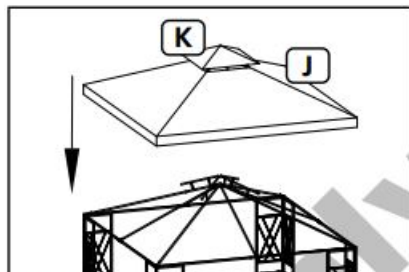
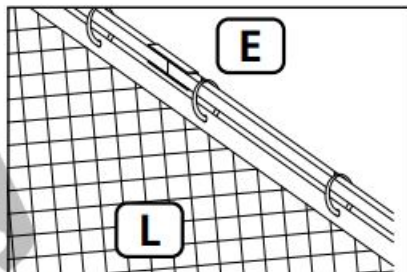
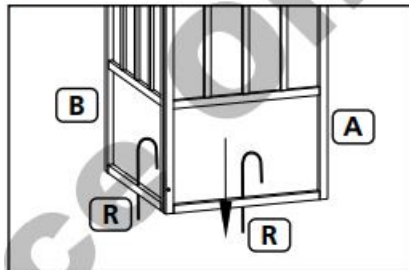

Fig. 10
Fig. 11
Fig. 12
Place Small Canopy (K) over top ribs of Canopy Two-Tier Ribs (H). Open Main Canopy (J), and spread the fabric over Corner Canopy Ribs (C), and Canopy Middle Ribs (D), see Fig. 10. Pull the corners of Main Canopy (J) over each corner of the frame. Please note that getting the fourth, and final corner of the canopy over the frame will be difficult since the canopy is intended to be taut when assembly is completed. Use the Plastic Rings (N) to hang each Netting Panel (L) from Crossbeams (E), see Fig. 11. Once completed, the tops of the Netting Panels (L) should be underneath Main Canopy (J) so that the Plastic Rings (N) aren't visible from outside the gazebo. Insert eight Stakes (R) through eyelets found at the bottoms of Left Panel (B), and Right Panel (A), see Fig. 12. Use a hammer (not included) to gently tap the Stakes (R) in place, securing the frame to the ground. Tie one end of each Rope (O) to loops found at the corners of the Main Canopy (J). Tie the opposite ends of Ropes (O) to the remaining four Stakes (R). Pull these Stakes (R) with Ropes (O) so that the rope is taut and gently hammer the stakes in the ground, see